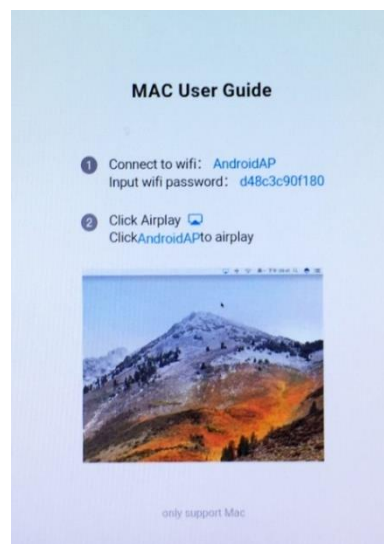

Figure 4.5
- ② Follow the instructions and video demonstrations in the MAC User Guide of the wireless screen mirroring interface, refer to Figure 4.5.